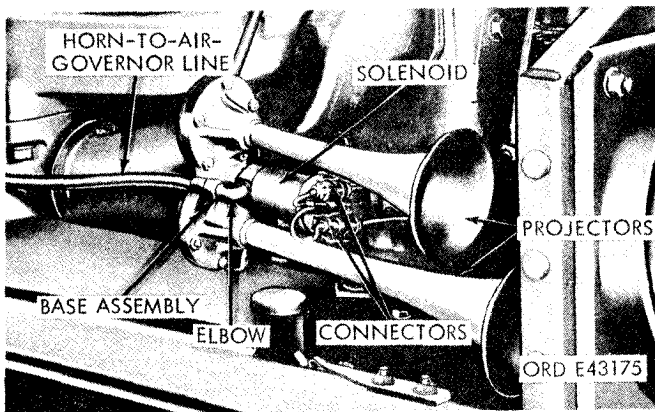

Figure 2-164. Horn installed in vehicle (solenoid without mounting brackets).
(1) *Removal (fig. 2-164).*
(2) *Installation (fig. 2-164).*